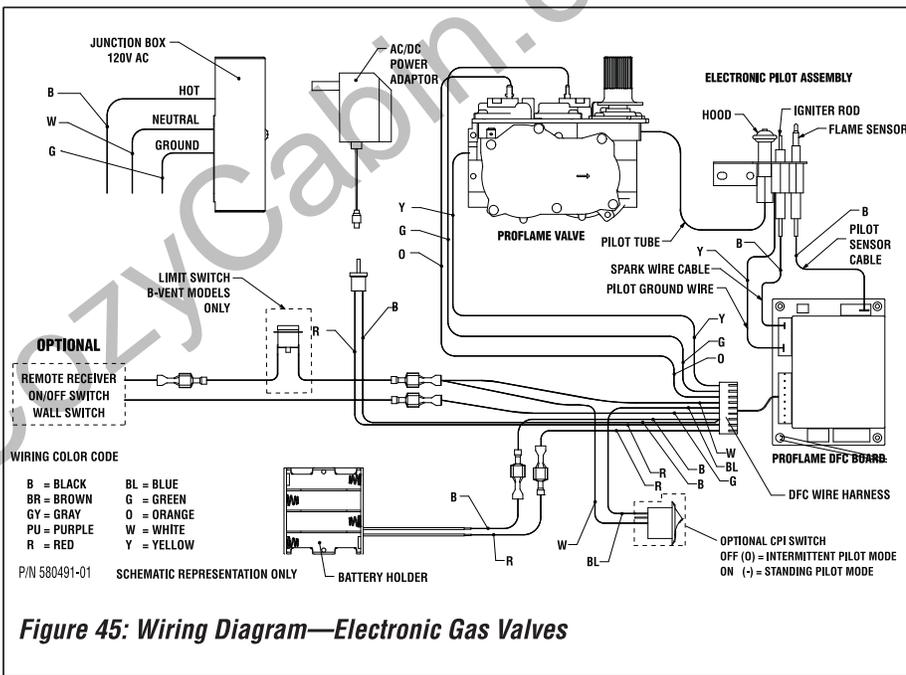

Figure 45: Wiring Diagram—Electronic Gas Valves
B. Electronic Wiring (Figures 45 & 46)
4. See **Figures 45 & 46**. Connect the **black power supply wire to the lower outlet's red pigtail lead**.
7. If an optional control is to be used, wire it in the low voltage circuit as shown in **Figure 45**.